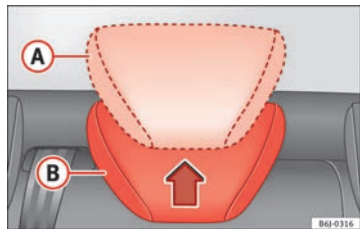

Fig. 4 Adjusting the rear head restraints.
- Raised position or position for use **(A)** ⇒ Fig. 4. In this position, the head restraint is used normally, protecting the occupant of the rear seats, along with the rear seat belts.
- Rest position, not in use **(B)** ⇒ Fig. 4. This position improves the driver's rear visibility.